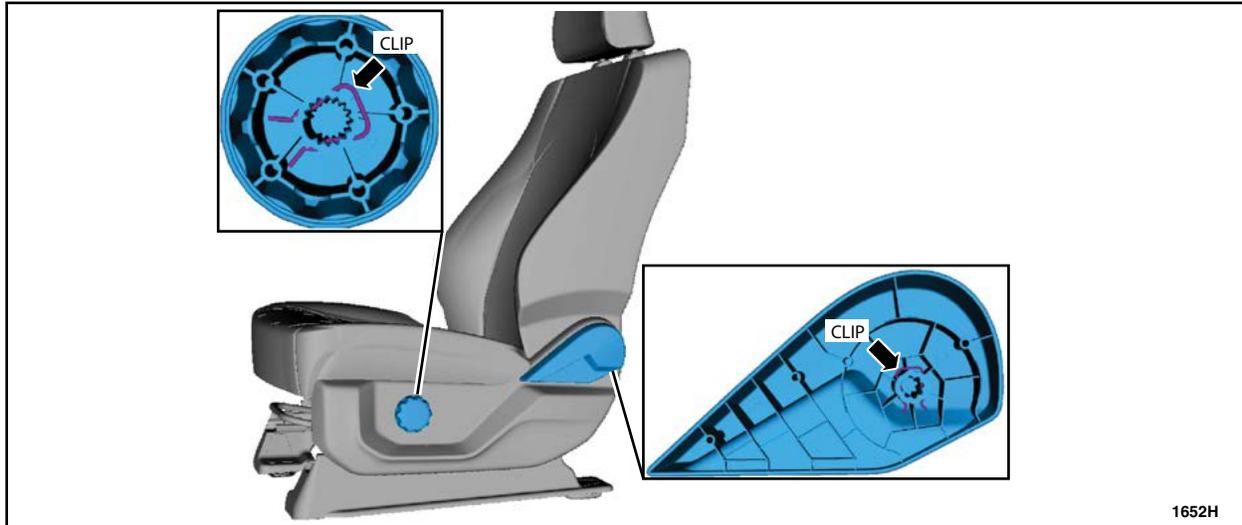

FIGURE 9
3. Remove the recline handle and lumbar knob (if equipped). See Figure 9.